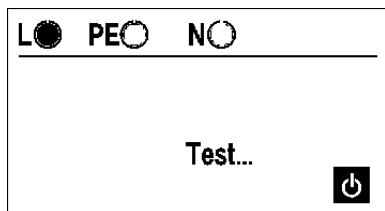

Figure 5.7.8: Test procedure running
- ▶ Briefly press the "Start/On" key (22), the test is started. During the running test the message 'Test...' (11) is displayed, please refer to Figure 5.7.8.